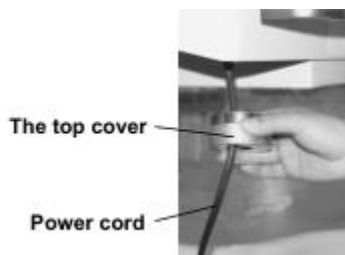
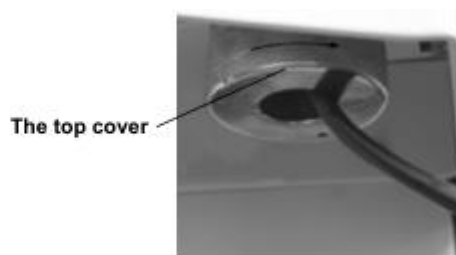
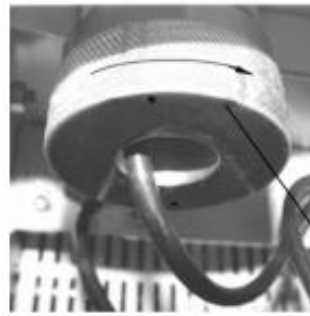

FIGURE 2.2.1
FIGURE 2.2.2
FIGURE 2.2.3
b. See figure 2.2.1, figure 2.2.2, tighten the top cover as the arrow indicates, and insert the plug into the relevant sockets. See figure 2.2.3, tighten the cover on the side of the signal cable in the direction of arrow, and then loose two support poles to make it lower the setting position. See figure 2.2.4, tighten two bolts on the cover. At last, keeps the signal cable well-inserted. (**NOTE :** After inserting the signal cable; you should screw the two sockets in place to prevent the interface loosen.)